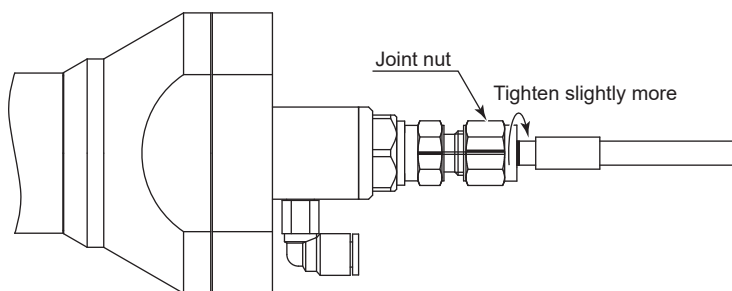

Fig. 24
- (3) Tighten the joint nut slightly more than before (by an amount equivalent to the thickness of the line). (Fig. 24)